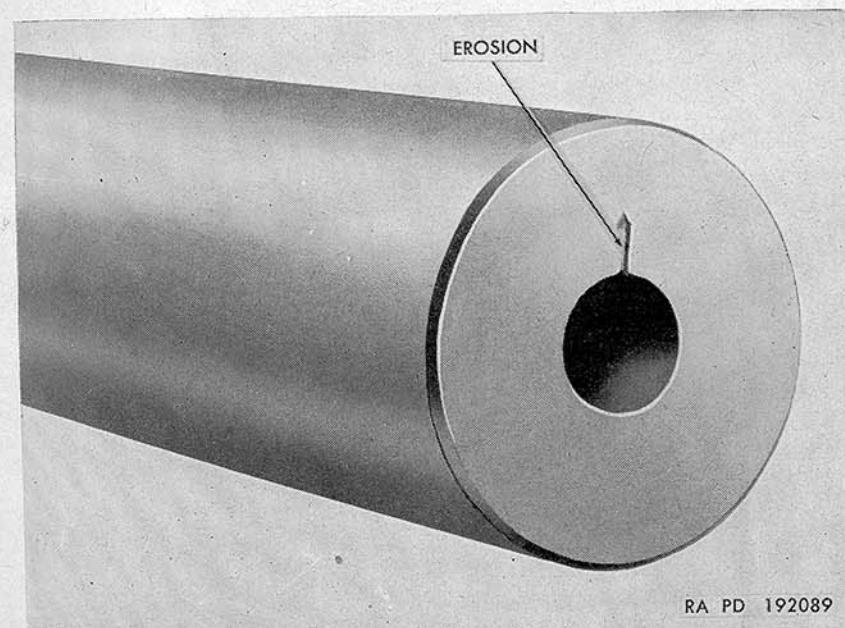

Figure 49. Erosion of breech face of tube caused by defective drum seals.
e. Check breech face of tube for possible gas erosion (fig. 49) caused by faulty drum seals. If such a condition exists replace barrel and examine drum seals (par. 68).